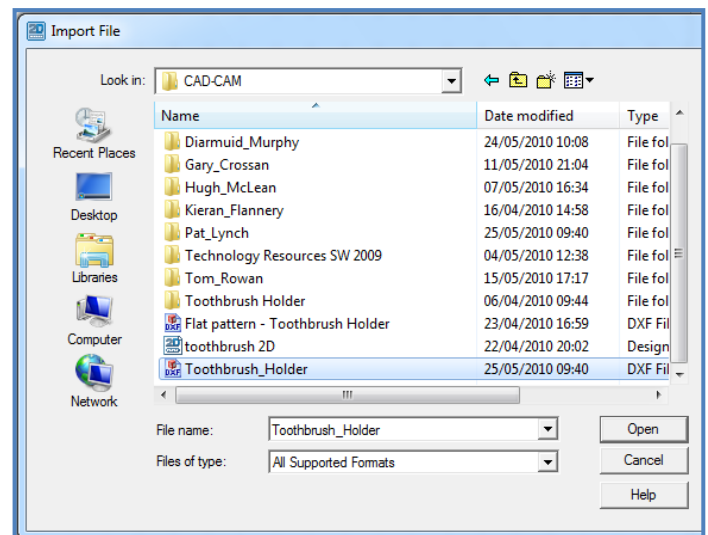

Figure 6
- Click on the Open button to import the file (Figure 6).